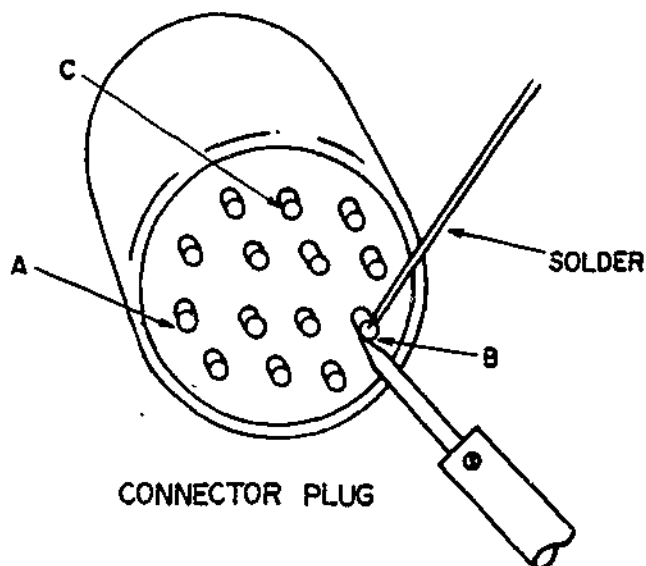

Figure 29. Tinning Solder Cup.
b. Tin the three cups as shown in figure 29. Place the soldering iron tip against the bottom of the cup and apply solder at the exact point on the cup opposite the iron. DO NOT OVERFILL CUPS.